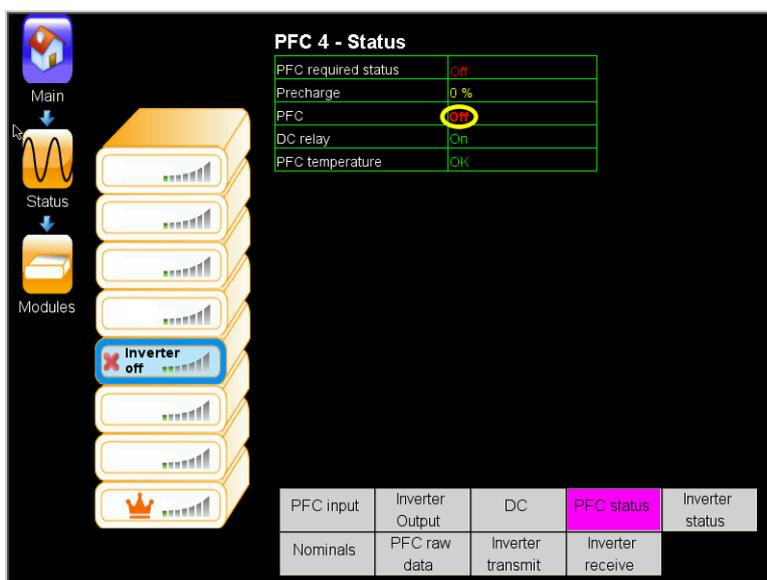
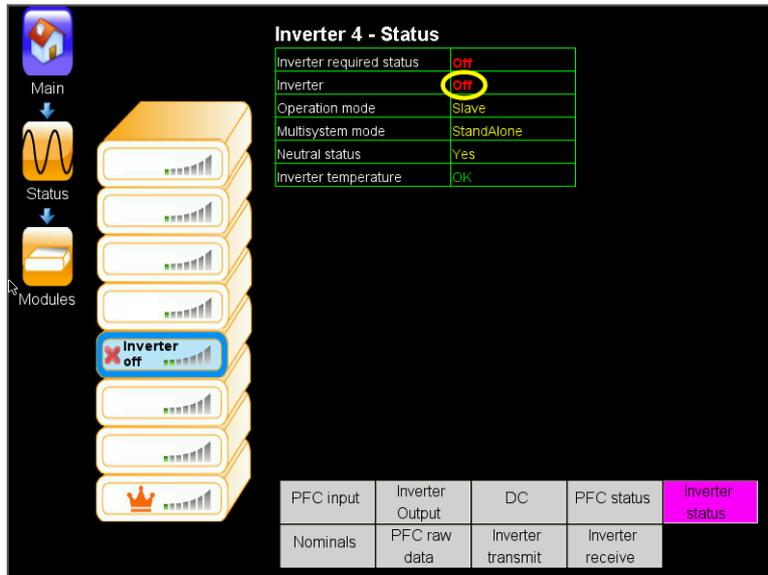

Figure 43: Status > Modules > PFC status for module 4
Figure 44: Status > Modules > Inverter status for module 4
5. To verify that the module has been shut down, navigate to the module status screen ("Main screen > Status > Modules"), press on the icon of the module you just shut down, and verify that the status is "OFF" for PFC (Figure 43) and for the inverter (Figure 44).